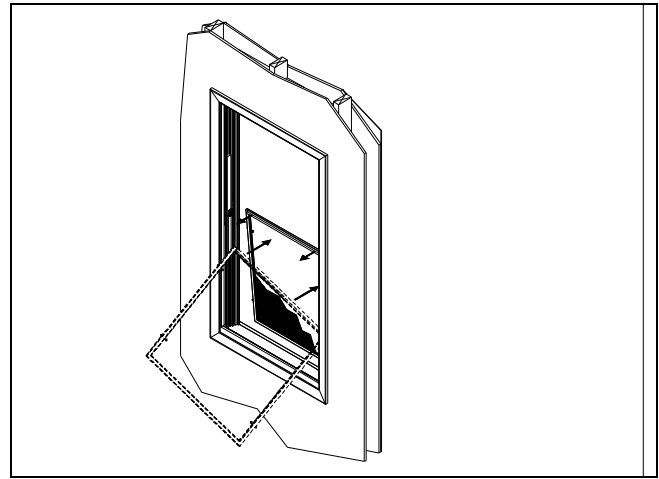

Figure 31 Sash not shown for illustrative purposes only.
33. When installing half screen, place screen sideways through window frame, turn to an upright position. Pull screen towards the interior, holding both plungers on one side in the open position. When screen is flush against blind stop, release plungers to lock into frame. See figure 31.